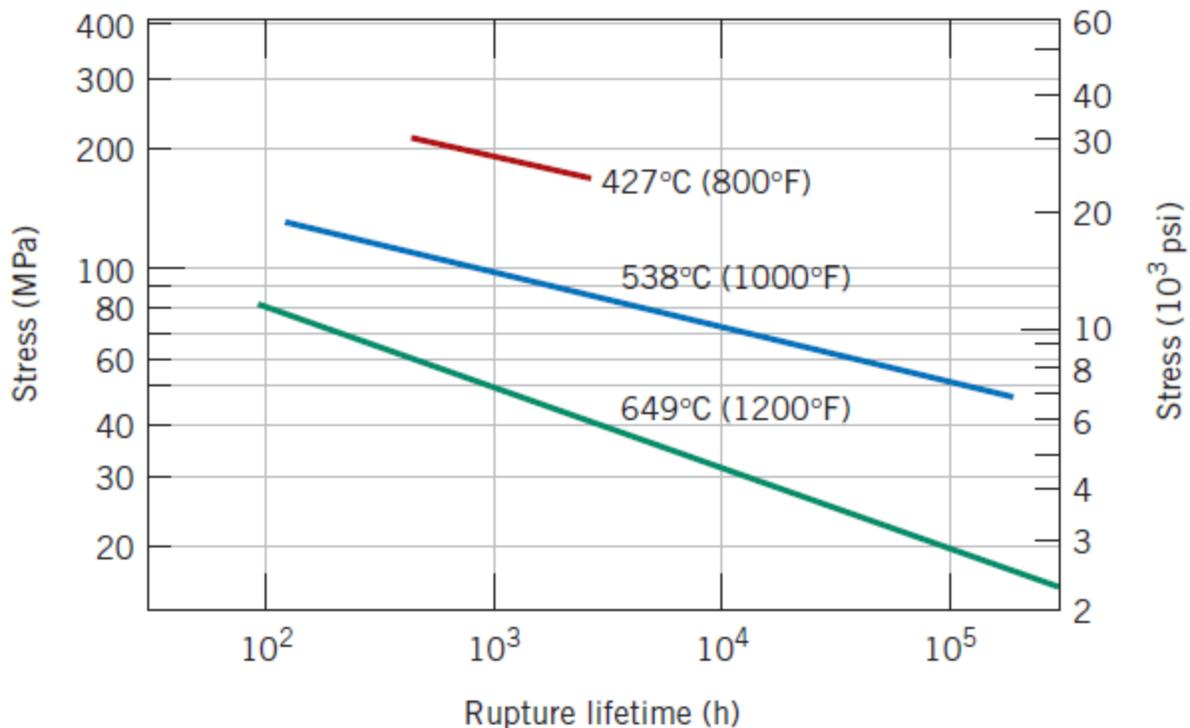

Fig. 2 Stress (logarithmic scale) versus rupture lifetime (logarithmic scale) for a low carbon–nickel alloy at three temperatures
3. If a component fabricated from a low carbon–nickel alloy (Fig. 2) is to be exposed to a tensile stress of 31MPa (4500psi) at 649°C, estimate its rupture lifetime.
4. A cylindrical component constructed from a low carbon–nickel alloy (Fig. 2) has a diameter of 19.1 mm (0.75 in.). Determine the maximum load that may be applied for it to survive 10,000 h at 538°C.